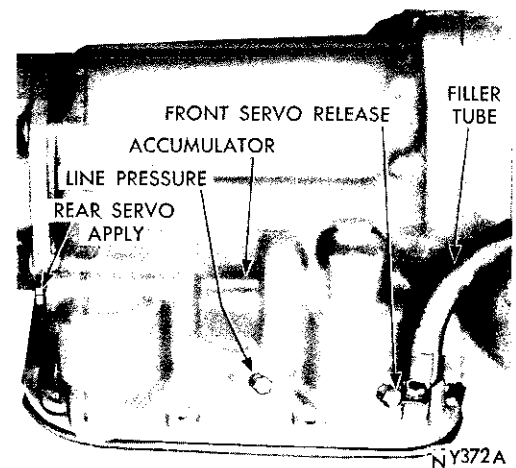

Fig. 26—Pressure Test Locations (Right Side of Case)
(1) Install an engine tachometer, raise the vehicle on a hoist and position the tachometer so it can be read under the vehicle.
(2) Connect two 0-100 psi pressure gauges, Tool C-3292 to pressure take-off-points at the side of the accumulator and at the front servo release (Fig. 26).
(3) With the control in D (drive) position, speed up the engine slightly until the transmission shifts into direct. (Front servo release will be pressurized in direct). Reduce engine speed slowly to 1,000 rpm. Line pressure at this time (1,000 rpm) must be 54-60 psi, and the front servo release pressure must not be more than 3 psi below line pressure.
(4) Disconnect the throttle linkage from the transmission throttle lever and move the throttle lever gradually to full throttle position. Line pressure must rise to a maximum of 90-96 psi just before or at kickdown into low gear. Front servo release pressure must follow line pressure up to the kickdown point and should not be more than 3 psi below line pressure.